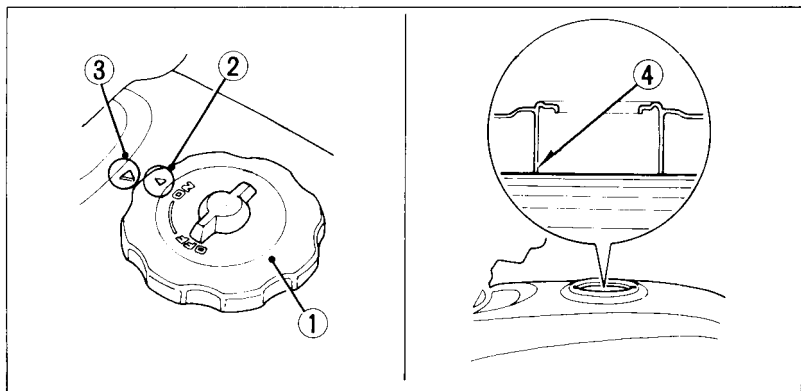

Fig. 4-2
To refuel, remove the fuel tank cap (Fig. 4-2) by twisting it counterclockwise. Do not overfill (make sure there is no fuel in the filler neck). After adding fuel, tighten the fuel tank cap firmly by turning it clockwise. Align the arrow (2) on the cap with the reference mark (3) on the fuel tank.